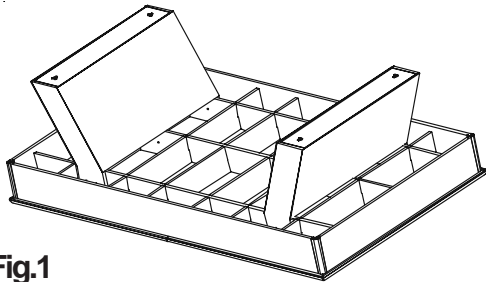

Fig.1
1. Place large master (main) table carton on floor and remove topside of box from master carton. With bottom carton flat on floor, unpack pedestals carton and position pedestals on table frame as shown in **Fig.1**.